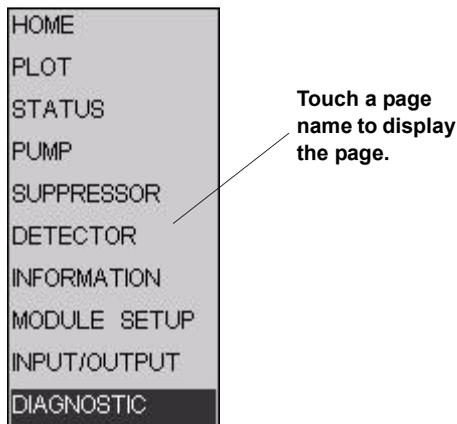

Figure C-3. ICS-1500 Touch Screen Menu of Pages
- Touching the page name (for example, ) on the bottom right corner opens a menu of pages (see Figure C-3).